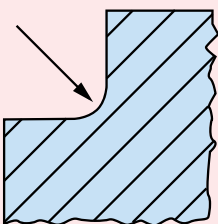

Figure 1: 1mm minimum radius
- Avoid sharp “internal corners”. The radius of curvature should be at least 1mm. Refer to figure 1.